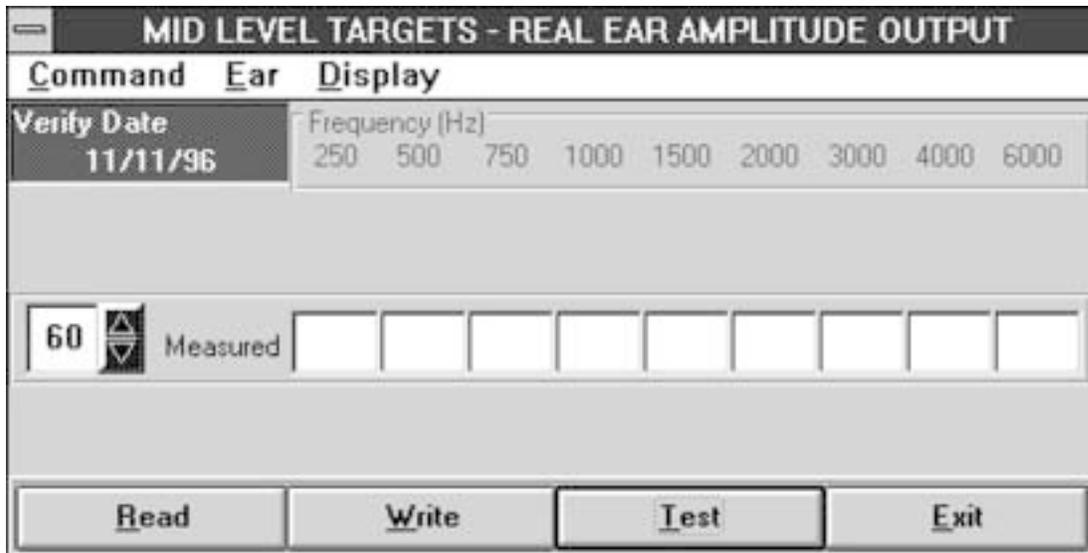

Figure 4.1.1
1. Click on the mid-level target icon. A new window will open. See Figure 4.1.1
1. Click on the mid-level target icon. A new window will open. See Figure 4.1.1.